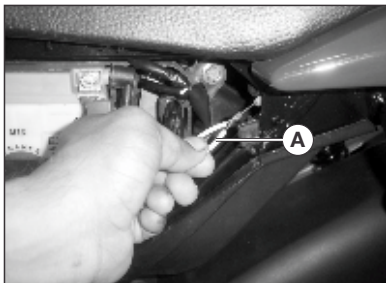

Fig. 1 Seat release cable
- Pull the 'Seat Release Cable' (A) to release seat lock. Keeping cable pulled, lift the seat from rear end and slide it towards tail lamp to remove seat assembly. Fig.1